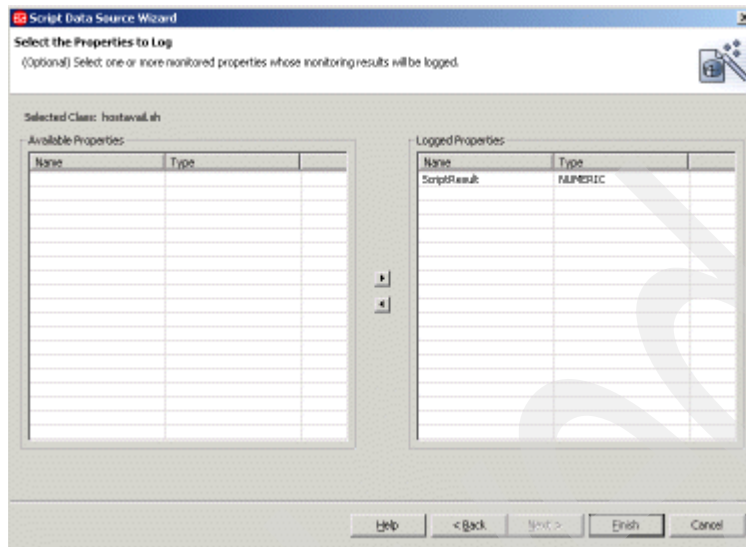

Figure 9-44 Script Data Source Wizard: Select the Properties to Log window
15. Select **Next**. The Script Data Source Wizard: Select the Properties to Log window displays. Select **ScriptResult** from the Available Properties list on the left-hand side of the window, and click the top button that points to the right. The ScriptResult property is moved to the Logged Properties list on the right-hand side of the window as shown in Figure 9-44 on page 465.